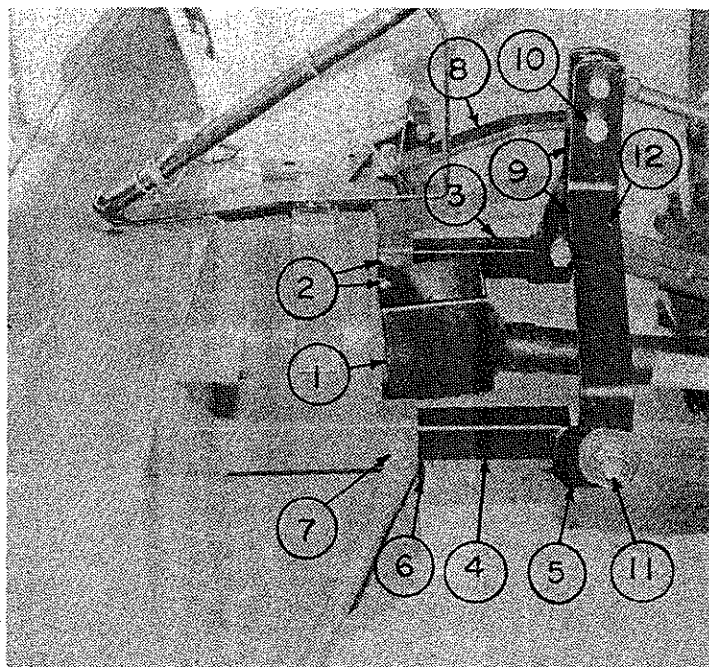

FIGURE 1
- e) Install the PTO guard (fig. 1, item 1) on the blower using two  $\frac{5}{16}$ " x  $2 \frac{3}{4}$ " carriage bolts, lockwashers and nuts, with the nuts on the tractor side (fig. 1, item 2). Tighten securely.
### STEP 2: THREE POINT HITCH ASSEMBLY (Figure 1)